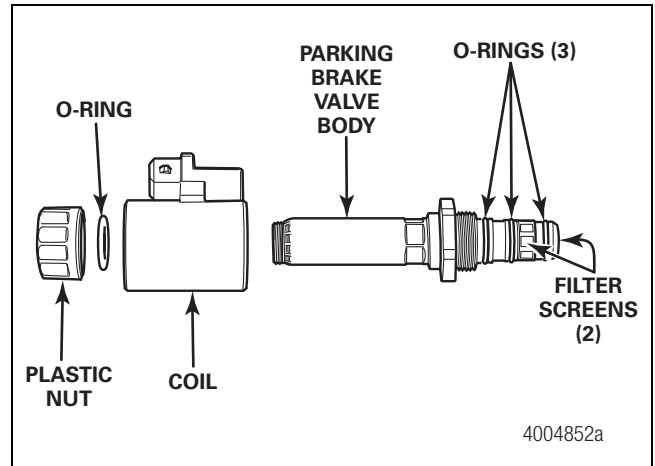

Figure 4.57
1. Remove the coil from the new pressure supply valve. Figure 4.57.